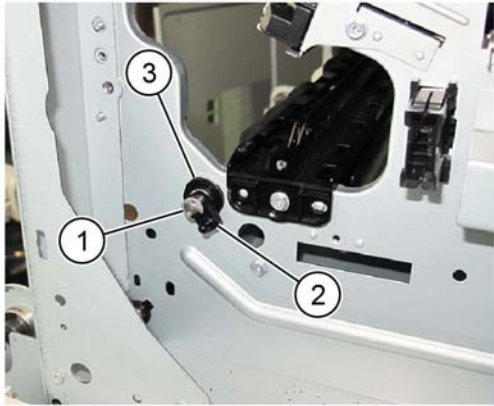

Figure 2 Front bearing removal
9. Remove the front bearing, Figure 2:
- a. Remove the E-clip (1).
- b. Remove the registration coupling (2).
- c. Remove the bearing (3).